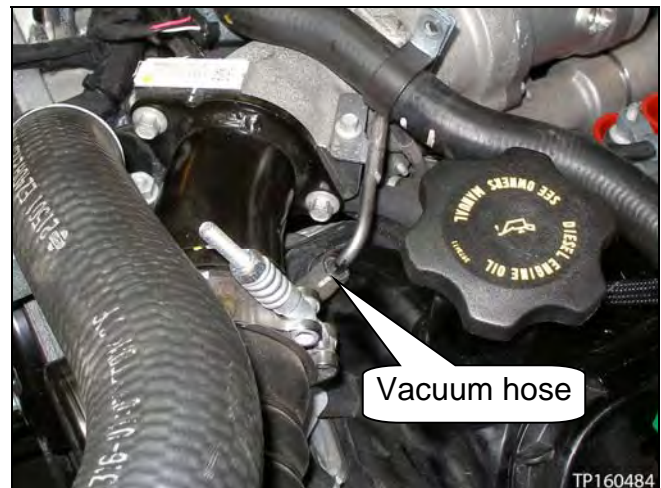

Figure 42
31. Disconnect the vacuum hose (see Figure 42).